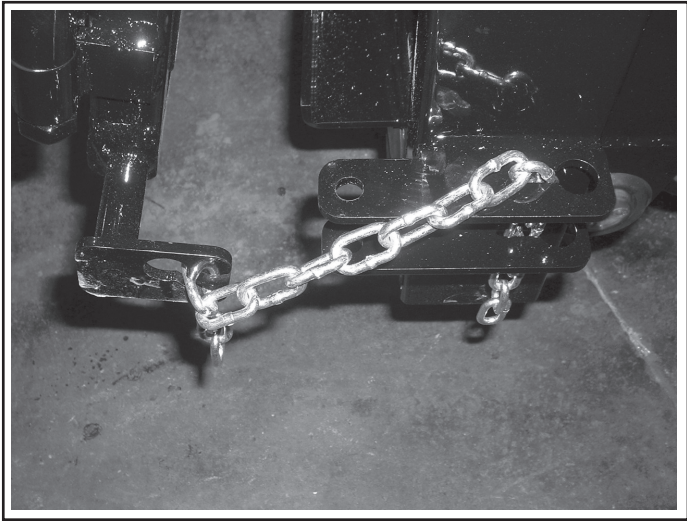

Figure 5-6 - Set Spreader Gate Metering Chains
- Install metering chains (2) as shown in figure 5-6. Set the metering chains at the desired number of links to control the opening distance of the spreader gate. Be sure to set both chains at equal length.